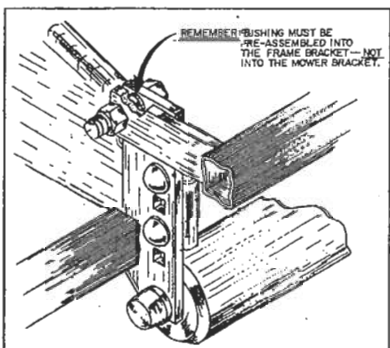

FIG. 3
- F) Tighten nuts using appropriate wrench until nut snugs against end of brass bushing (the mower head should pivot vertically on the bushings.) It will be necessary to use open end or crescent wrench on out board side of attachment bracket on the center rear head. **FIG. 3**